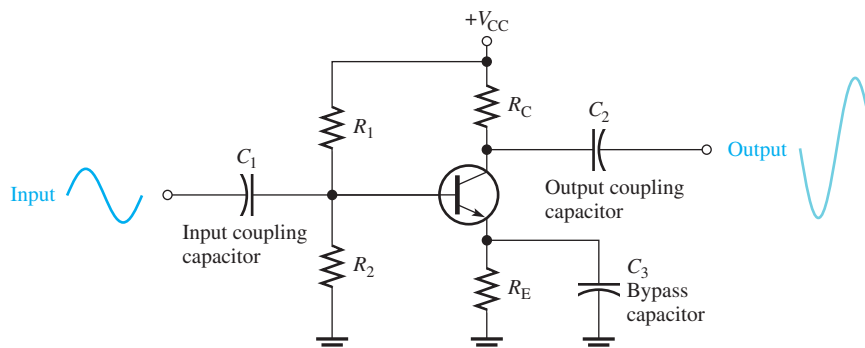

FIGURE 18
Figure 18 shows a typical **common-emitter (CE)** amplifier. The one shown has voltage-divider bias, although other types of bias methods are possible. C_1 and C_2 are coupling capacitors used to pass the signal into and out of the amplifier such that the source or load will not affect the dc bias voltages. C_3 is a bypass capacitor that shorts the emitter signal voltage (ac) to ground without disturbing the dc emitter voltage. Because of the bypass capacitor, the emitter is at signal (ac) ground (but not dc ground), thus making the circuit a common-emitter amplifier. The bypass capacitor increases the signal voltage gain. (The reason why this increase occurs is discussed next.) Notice that the input signal is applied to the
The Bypass Capacitor Increases Voltage Gain The bypass capacitor shorts the signal around the emitter resistor, R_E , in order to increase the voltage gain. To understand why, let's consider the amplifier without the bypass capacitor and see what the voltage is. Imagine the CE amplifier in Figure 18 with the bypass capacitor removed.